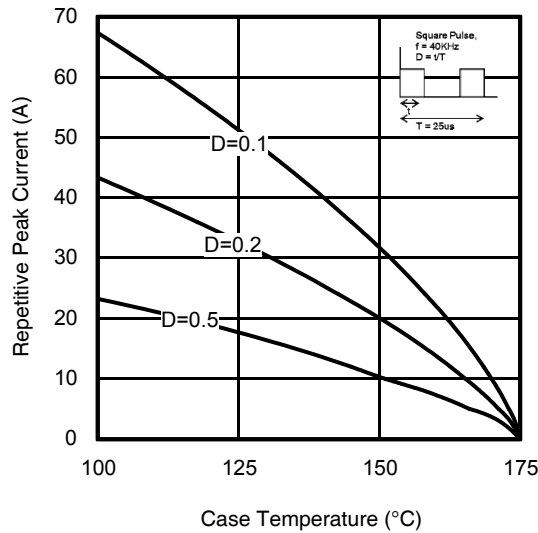

Fig. 26. Maximum Diode Repetitive Forward Peak Current vs. Case Temperature
- ① V_{CC} = 80% (V_{CES}), V_{GE} = 20V, R_G = 10Ω, L = 1.0mH.
- ② R_θ is measured at T_J of approximately 90°C.
- ③ Refer to AN-1086 for guidelines for measuring V_{(BR)CES} safely.
- ④ Pulse width limited by max. junction temperature.
- ⑤ Values influenced by parasitic L and C in measurement.
- ⑥ f_{sw} = 40KHz, refer to figure 26.